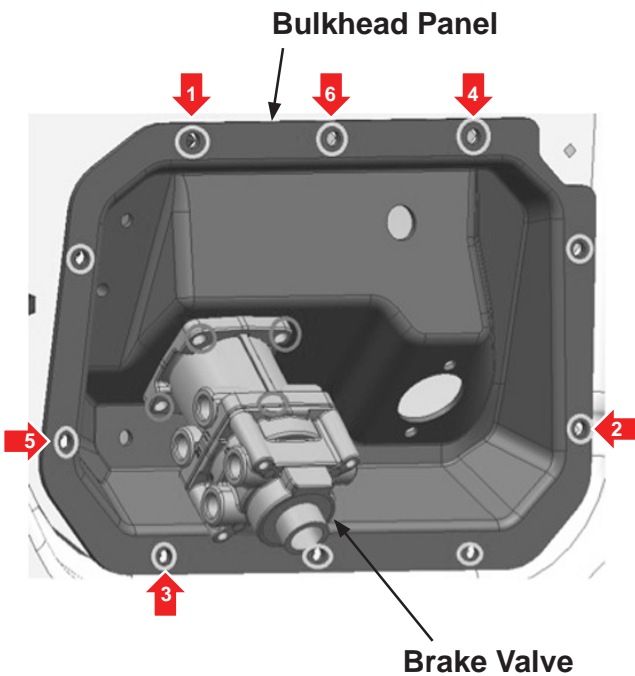

Figure 8-1
- Starting with the bolt marked [1], remove the bolt and replace with new bolt (GM410108AD13). Remove and replace the bolts marked [2] through [6] in sequence. Tighten the bolts in rounds, in sequence [1] through [6], until each holds 13 ft-lb (18N·m) of torque (which should require approximately 10 rounds of tightening in sequence [1] through [6]) (see Figure 8-1).